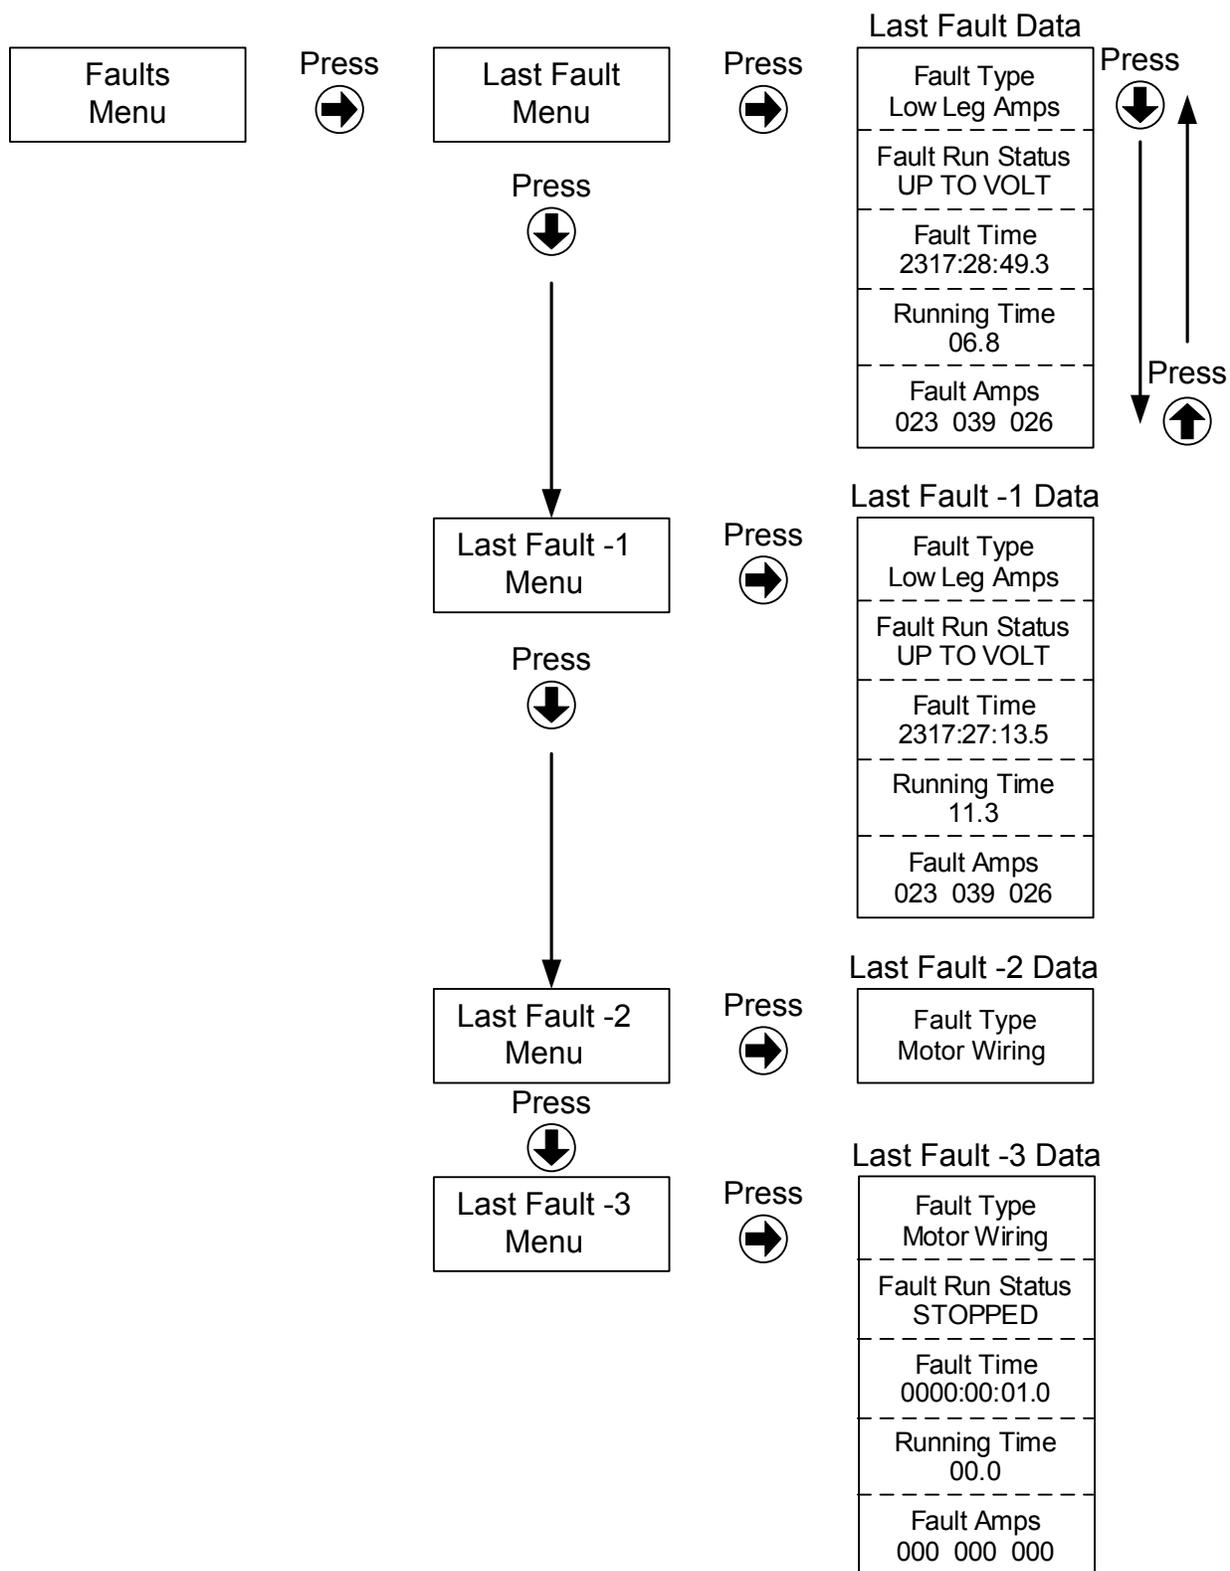

Figure 16: Faults Menu Structure
5.6 Faults Menu (see Figure 16)